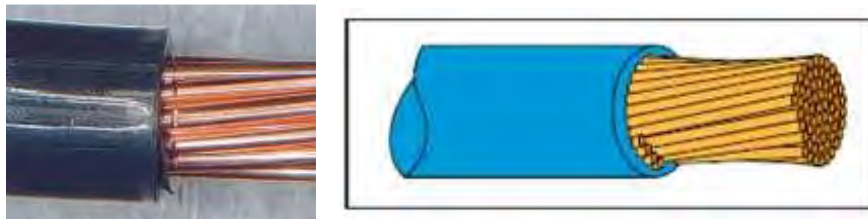

Figure 183
11. Inspect wire strands and ensure they are not damaged or oxidized as shown in Figure 183.